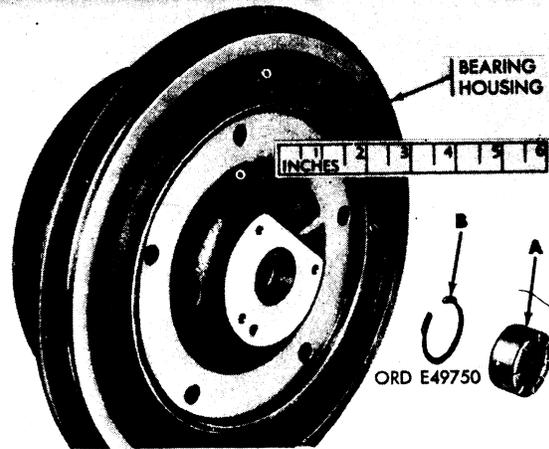

FIGURE 35. REMOVING OR INSTALLING COMPRESSOR END SLEEVE BEARING AND RETAINING RING - TURBOCHARGERS 10912638 AND 53591-C-139552.
- (2) Using the same pliers, remove the last retaining ring (E).
a. Refer to figure 35. Remove rotor shaft sleeve bearing (A). Remove retaining ring (B) using bearing retaining ring pliers - 10935598.